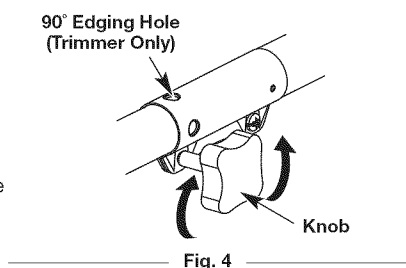

Fig. 4
- Turn knob counterclockwise to loosen (Fig. 4).
- Turn the knob clockwise to tighten (Fig. 4).
For decorative edging with the line head trimmer attachment or other attachment, lock the release button of the attachment into the 90° hole (Fig. 4).
- Turn the knob counterclockwise to loosen (Fig. 4).